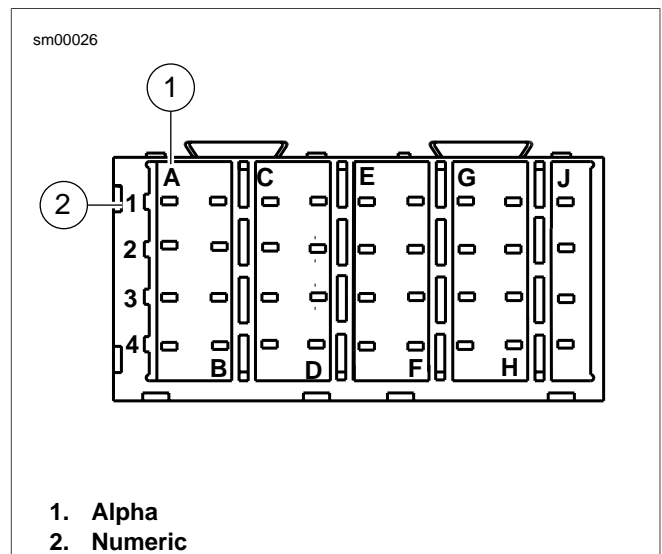

Figure A-24. Fuse Block: Coordinates (typical)
- See Figure A-24. The main fuse block terminal cavity is identified as alpha (1) and numeric (2) coordinates. Refer to the main harness wiring diagram for fuse block terminal cavity coordinates.